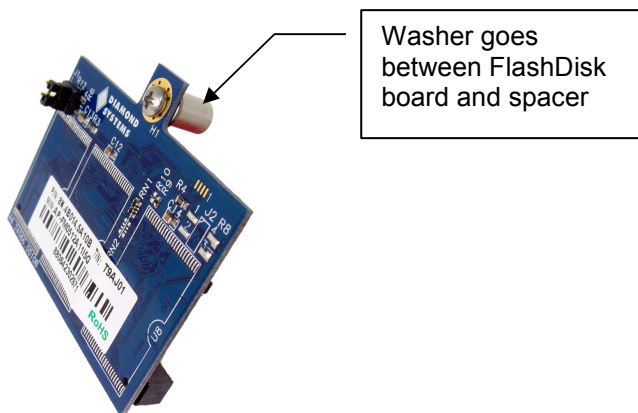

Figure 4. FlashDisk Installation
2. Connect round spacer (DSC# 6841002) to the FlashDisk module using one 2-56x pan head screw and one #2 flat washer. The spacer should be on the side of the FlashDisk module with the female IDE connector. The washer should be on the top of the spacer. See Figure 4.